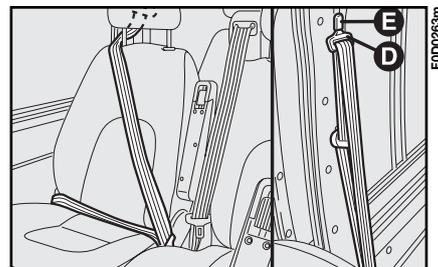

fig. 13
- **fig. 13** first row right-hand side seat